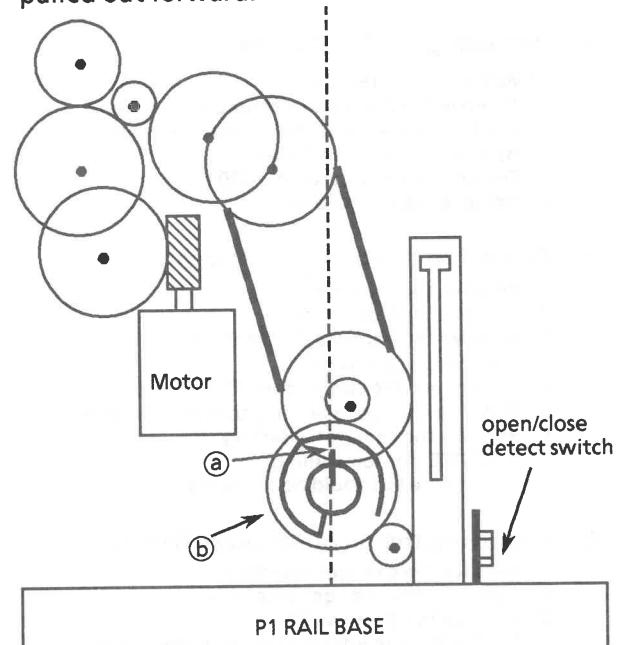

Fig.7
- 2) Remove the screw ① fixing the open/close sw and the sw.
- 3) Pull the P1 RAIL BASE by pulling up the hook ② slightly.
* Install gear ③ so that part ④ shown in fig.7 is perpendicular to the P1 rail base.